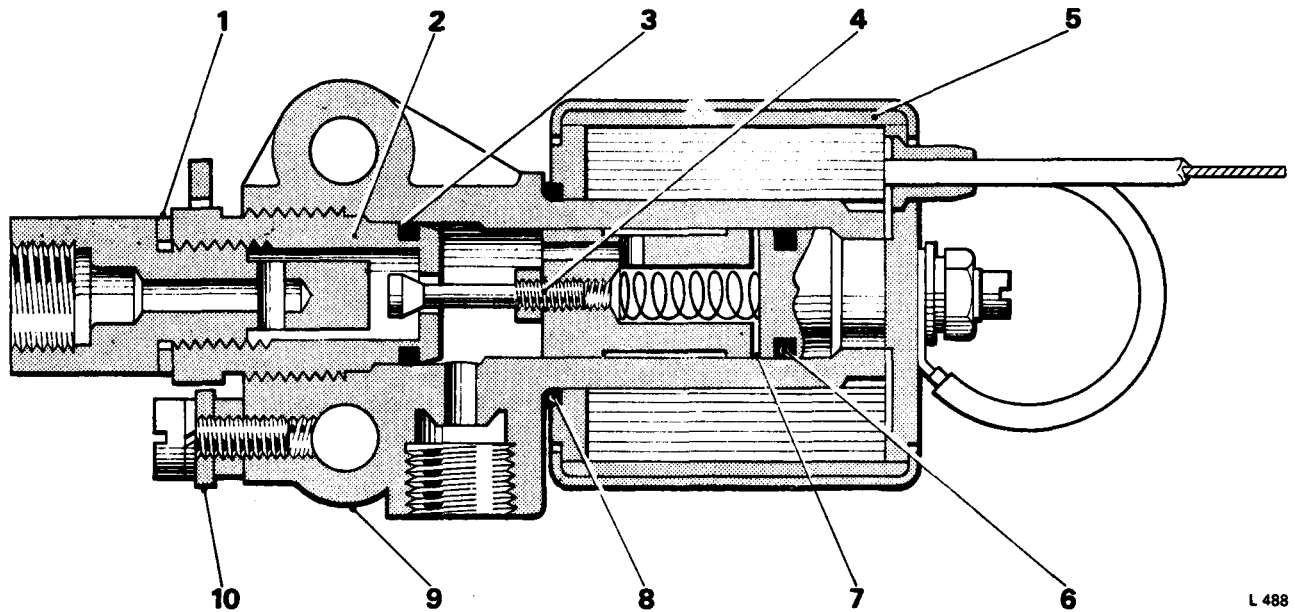

FIG. S73 SECTIONAL VIEW OF A SOLENOID VALVE
C. Failure of the valve to release (open) could be due to the bobbin being jammed (*see Fig. S73*). Dismantle the valve and examine; check that the armature release spring is free.
D. Failure of the valve to hold pressure may be due to a damaged valve or valve seat (*see Fig. S73*). To remedy this, remove the valve and inspect the valve seat for score marks; renew one or both components if necessary.